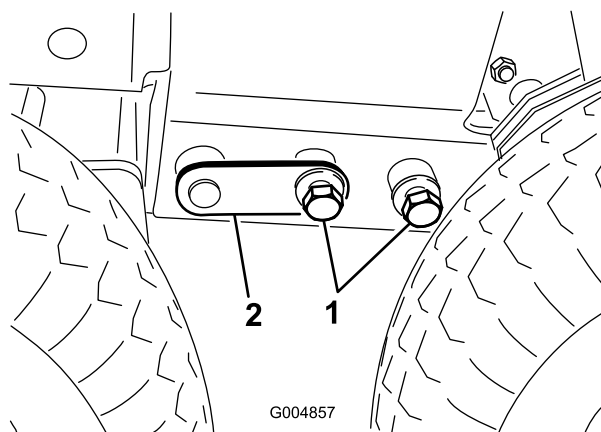

Figure 49
10. Adjust the floor jack as required to install the bolts (3/4 inch) on each side (Figure 49). Torque the bolts to 265 ft-lb (359 N·m).